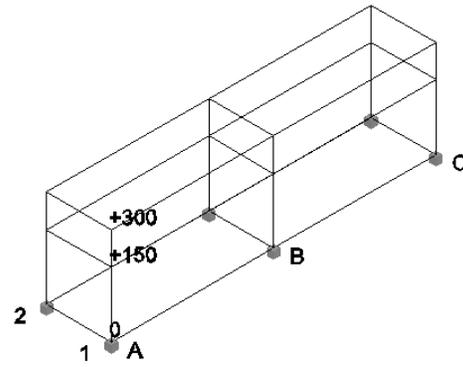

Figure 3-29 Model after adding footings
3. Choose the **Footings** tool from the **Parts** panel; you are prompted to select the insertion point. Place the footings at the bottom grid points, as shown in Figure 3-29.